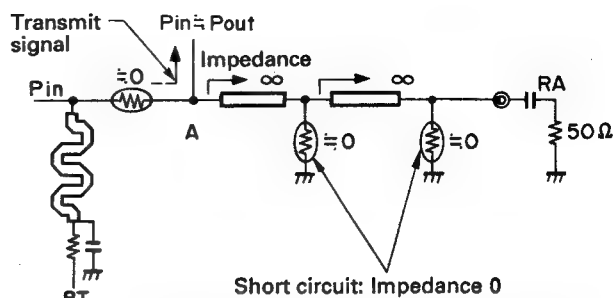

Fig. 20 Equivalent Circuit during Transmission
Figure 20 shows the equivalent circuit during transmission. A current flows through each diode using 8T. The impedance becomes very low. At that time, the receiver side uses a  $\lambda/4$  strip circuit. Therefore, the impedance becomes very high when the receiver side is viewed from point (A). The voltage from a power module is transferred to the antenna.